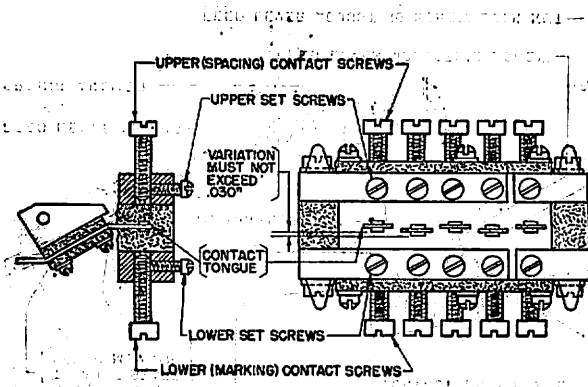

Fig. 11
**Note:** Before making adjustments 4.20 to 4.32, back-off all contact screws (Fig. 11). These adjustments must be made in the order given, because all are inter-related and a change in one will affect all others. If one adjustment is changed, all others should be checked.
- (a) Contact tongue plane shall be approximately horizontal, and any one tongue shall not be more than .030" out of alignment with any other tongue when contact screws are backed off, as in Fig. 11. Gauge by eye.
(1) To adjust, bend tongues